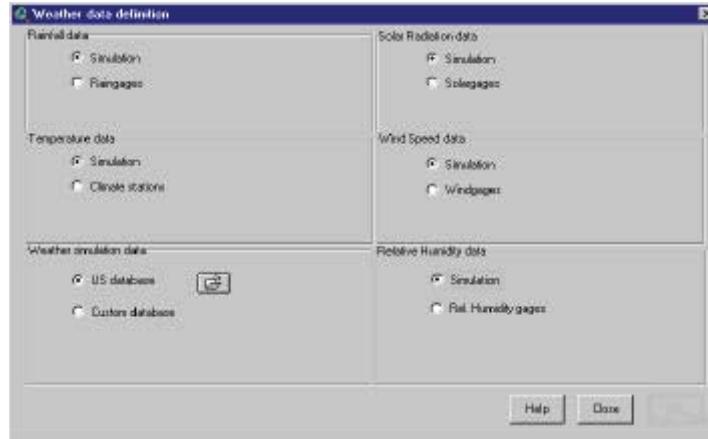

Figure 15.38
2. The Weather Data dialog box will be displayed (Figure 15.38).